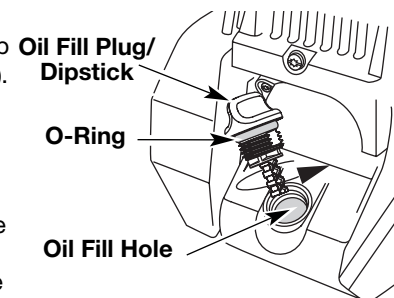

Fig. 29
6. If the level is low, add a small amount of oil to the oil fill hole and recheck (Fig. 29). Repeat this procedure until the oil level reaches the top of the dipstick.
NOTE: Make sure the O-ring is in place on the oil fill plug/dipstick when checking and changing the oil (Fig. 29).